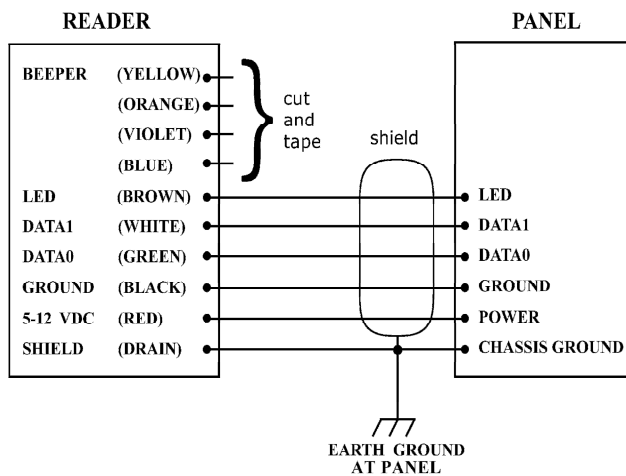

FIGURE 2: Wiring Diagram (Wiegand)
3. Connect the reader's ground, Data-0, Data-1, LED and power (see Figure 2). Connect *yellow* wire only if used for Beeper control. **Do not connect orange, blue & violet** wires to anything. **Tape or cap** all unused wire separately.
Note: The number of conductors depends upon use of the reader's features – LED and Beeper. See Figure 2.